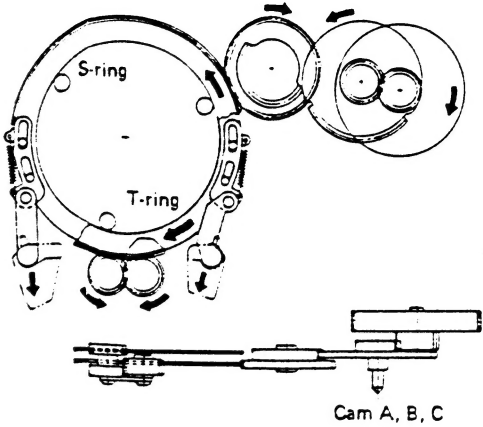

Fig. 2-2-1
2. These cams control the main brakes, soft brakes, pinch roller, band brakes, etc. through the logic slider, brake slider, and the pinch lock lever. (Fig. 2-2-1)